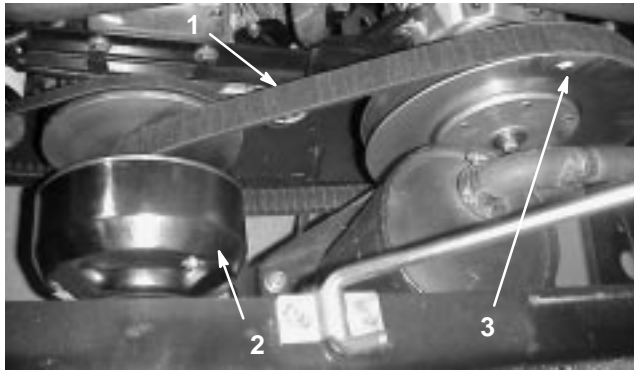

Figure 28
1. Rotate and route the belt over the secondary clutch (Fig. 28).
2. Remove the belt from the primary clutch (Fig. 28).